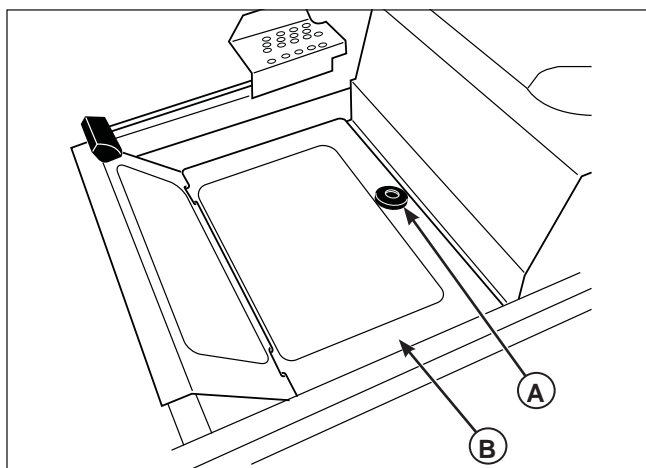

Figure 39. Floor Pan Removal / Installation
1. Loosen and remove the knob (A, Figure 39) that secures the floor pan (B) to the frame of the unit.